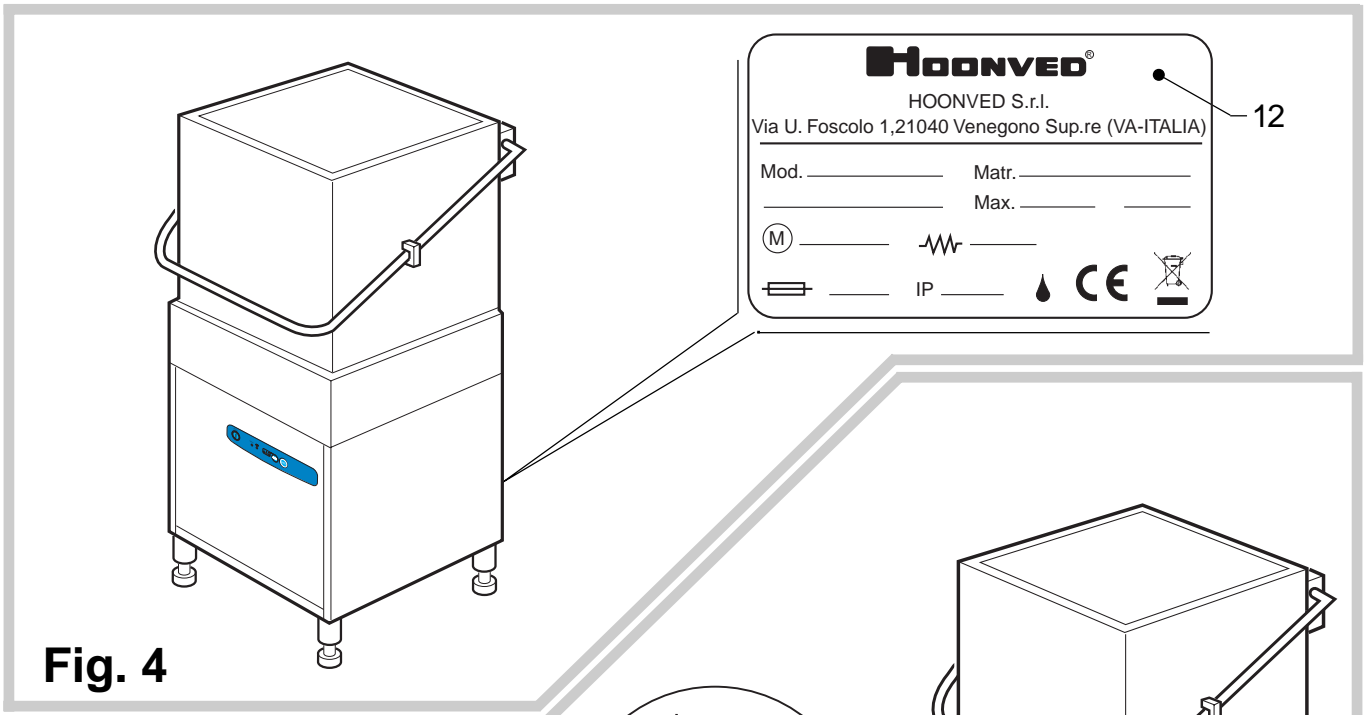

Fig. 4
- **Before connecting to the electricity main, always check that the data pertaining to the power source correspond to those indicated on the identification plate (pos. 12 Fig. 4) and that the main electric power switch installed prior to the machine is disconnected "0" OFF.**
- Connect the electrical power cable (18) to the main switch installed prior to the machine.
- Connect the equipotential ground conductor to the terminal (19).